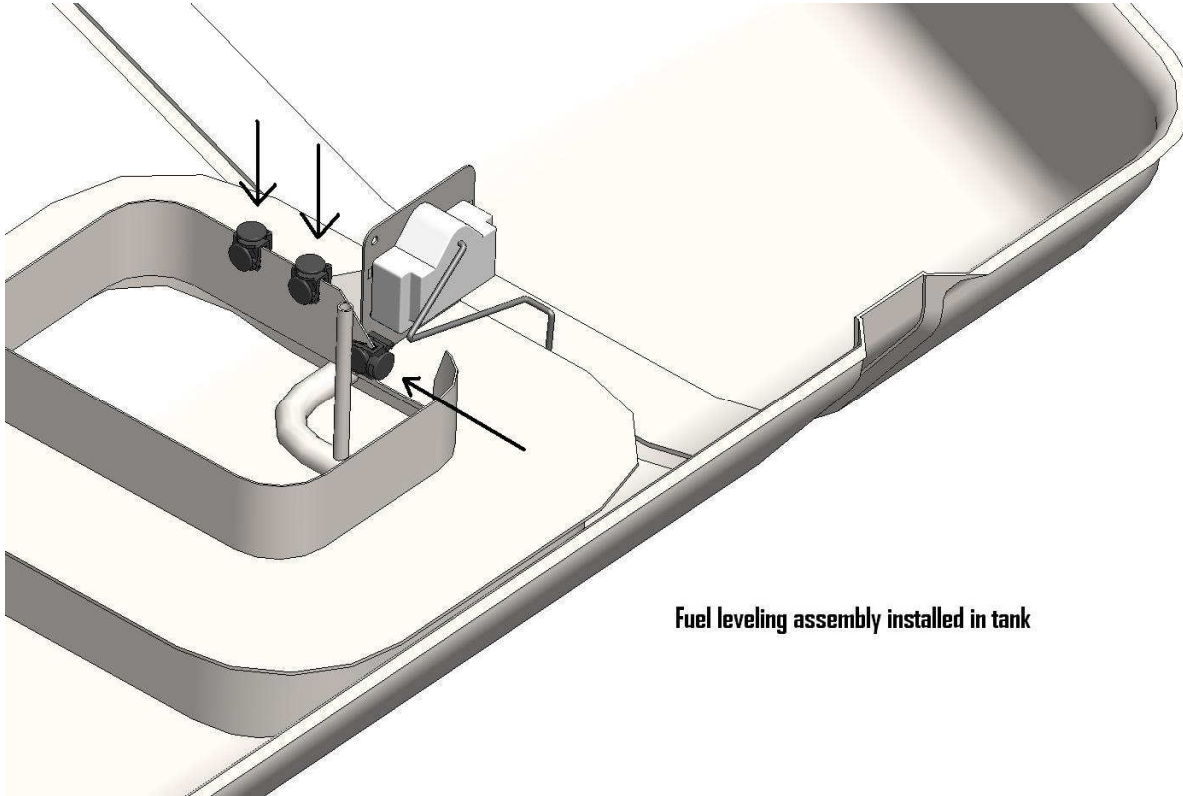

FIGURE 1-3
- 7 Position the fuel level sensor assembly into the tank as shown in **FIGURE 1-3**. With the fuel level sensor bracket and the baffle walls butted up against each other. Push the provided edge clips into position to secure the two pieces together.